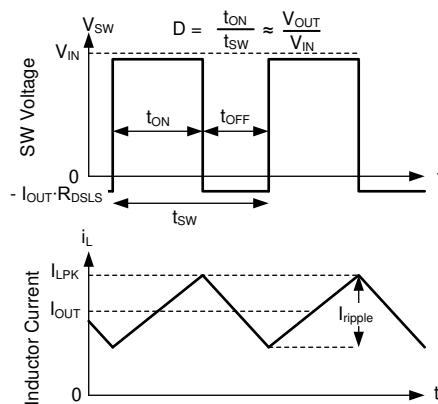

Figure 8-20. SW Voltage and Inductor Current Waveforms in Continuous Conduction Mode (CCM)
The following operating description of the LM6x4xx-Q1 refers to Section 8.2 and the waveforms in Figure 8-20. Both supply a regulated output voltage by turning on the internal high-side (HS) and low-side (LS) NMOS switches with varying duty cycle (D). During the HS switch on-time, the SW terminal voltage, V_{SW} , swings up to approximately V_{IN} , and the inductor current, i_L , increases with a linear slope. The HS switch is turned off by the control logic. During the HS switch off-time, t_{OFF} , the LS switch is turned on. Inductor current discharges through the LS switch, forcing V_{SW} to swing below ground by the voltage drop across the LS switch. The regulator loop adjusts the duty cycle to maintain a constant output voltage. D is defined by the on-time of the HS switch over the switching period: $D = T_{ON}/(T_{ON} + T_{OFF})$.